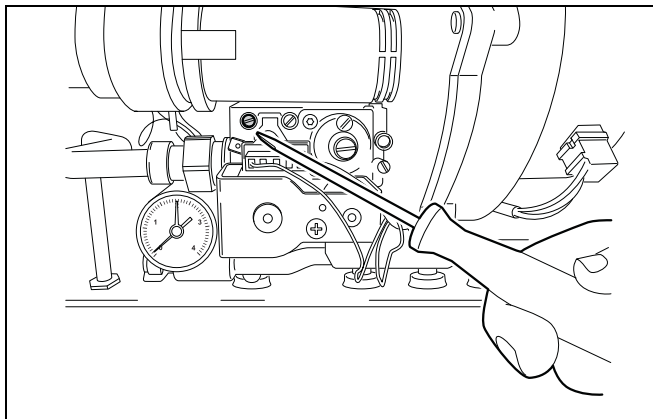

fig. 55 Bleeding the gas supply pipe
- Open the screw plug on the testing nipple for the inlet gas pressure and for purging (fig. 55) by two turns and install a hose.